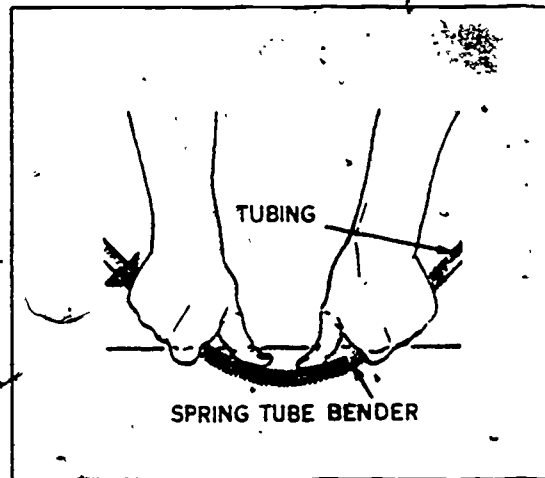

Figure 3-3. Bending tubing using a spring
c. Bending tubing with a spring. Still another method that is used by the plumber to bend soft copper tubing without buckling it is to use a flexible bending spring. This operation is performed by placing the correct size of flexible bending spring over the tubing, and gradually forming it with the thumbs while the tubing is held against a table or solid flat surface, as shown in figure 3-3.